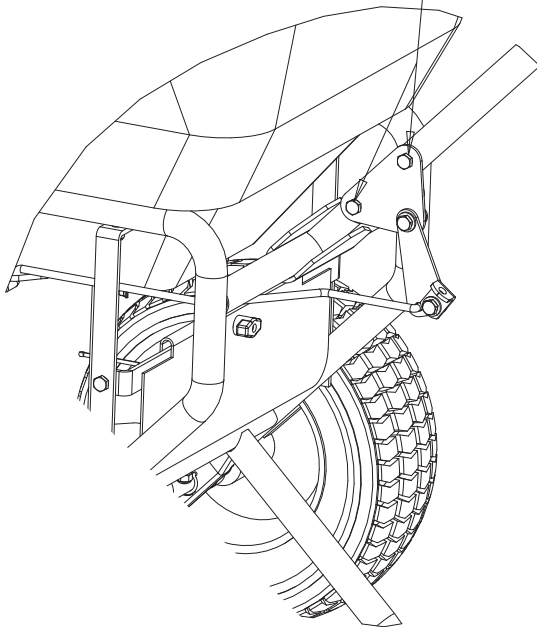

Figure 6
- Attach the Linkage Plate Assembly and Handle to the Frame using two M6x40 bolts as shown. Figure 6 shows the lower linkage assembled (for reference).